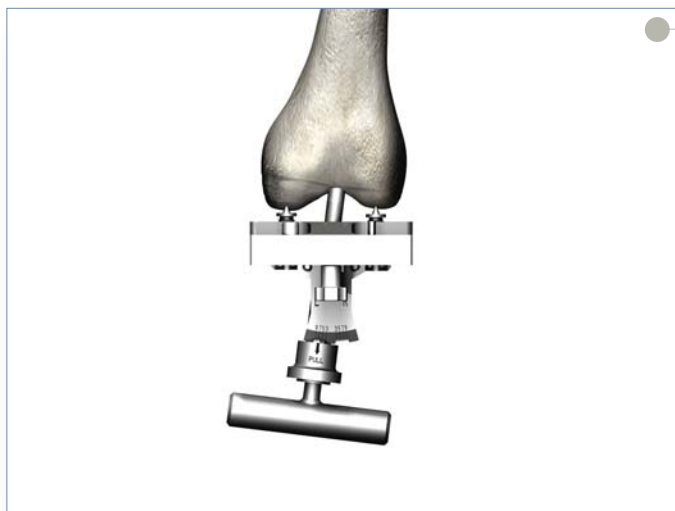

Figure 5
- ▶ Place the 5/16" T-Handle Rod through the Femoral Alignment Guide and insert the assembly into the intercondylar drill hole (**Figure 5**). Advance the rod slowly into the intramedullary canal. A suction source may be attached to the suction fitting on the rod to reduce the potential for excessive canal pressurization.